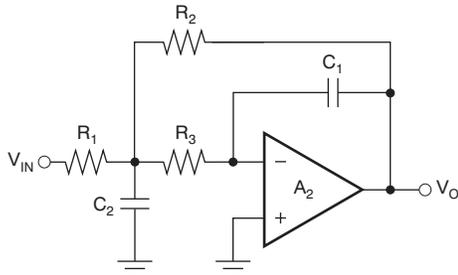

Figure 12. MFB Complex Pole-Pair Section
- Multiple Feedback (MFB), illustrated in Figure 12